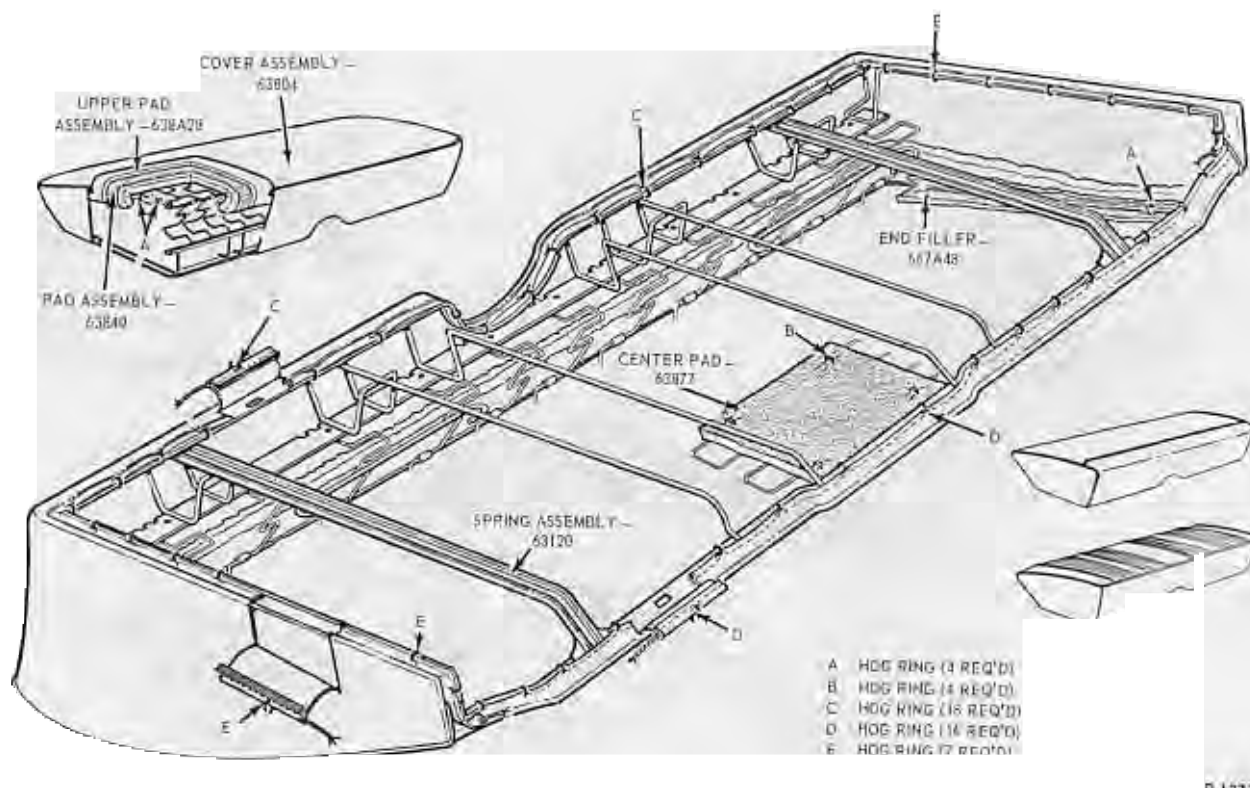

FIG. 3—Typical Rear Seat Cushion Cover Installation
5. Position the new cushion cover on the seat frame and springs and attach it in place with hog rings (Fig. 3).